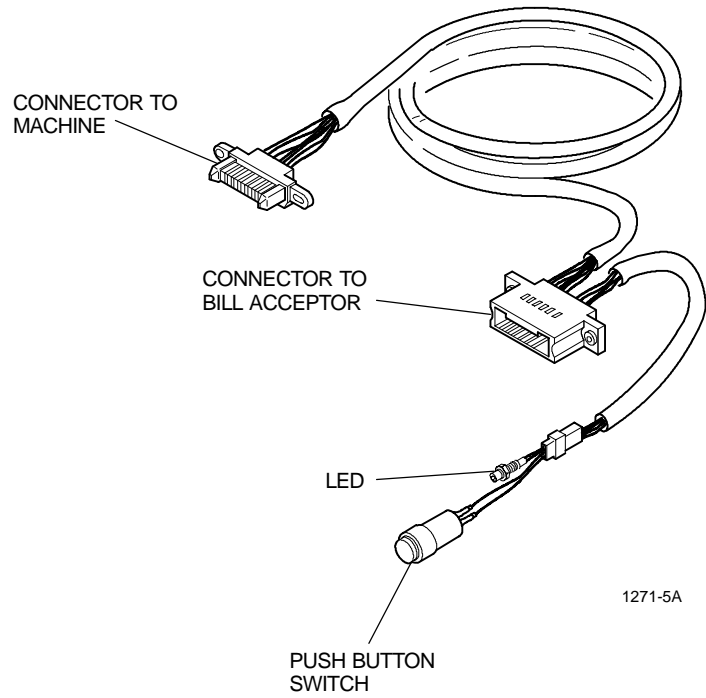

Figure 1-3. Adjustment Harness.
Calibration at the Machine – Connect the adjustment harness between the connector on the WBA chassis and the connector on the transport assembly (see Figure 1-3).
6. As the test paper is ejected from the WBA, observe the LED indicator on the adjustment harness (see Figure 1-3). If the calibration was successful, the LED flashes rapidly at about 0.1 second intervals. If there was a problem during the calibration, the LED flashes at a much slower rate (about once a second) a certain number of times to indicate the error condition that caused the problem. Refer to Table 1-1 to determine the error condition.
8. Observe the LED indicator on the adjustment harness (see Figure 1-3). If the calibration was successful, the LED flashes rapidly at about 0.1 second intervals. If there was a problem during the calibration, the LED flashes at a much slower rate (about once a second). The LED flashes nine times to indicate a magnetic sensor error.